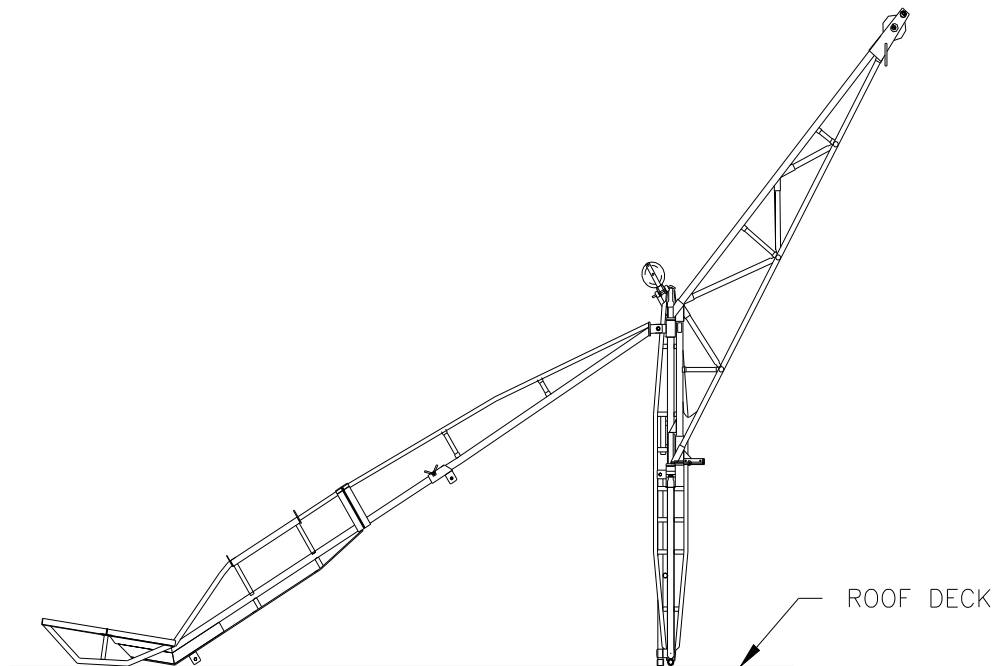

Figure 3-8.
- Stand the unit upright to bring the Front Leg assembly to a vertical position. To do this, have one person pull at the counterweight box and another person push up at the top of the Front Leg. When pushing up at the Front Leg, make sure the Boom does not come out of the Front Leg sockets. See Figure 3-8. Have one person steady unit and ensure the Front Leg is vertically plumb.